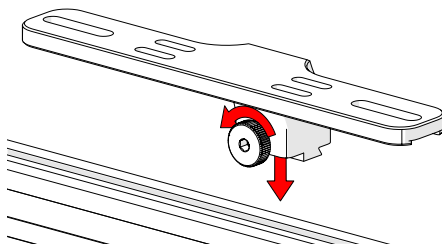

Fig. 84 - Loosen knob and mount to dovetail groove
1. Loosen the knob and align with the dovetail groove (Fig. 84).